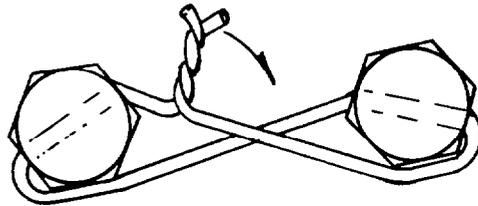

Fig. 334 — Lock-wiring Bolts
- j. Mount the assembly in a soft jawed vice and torque the retaining bolts to 136 – 163 Nm (100 – 120 lb.ft), then wire the heads of the retaining bolts together in pairs (see fig. 334).
- a. Install a new seal into the through shaft bearing cover, as shown in fig. 334, then temporarily set it aside.